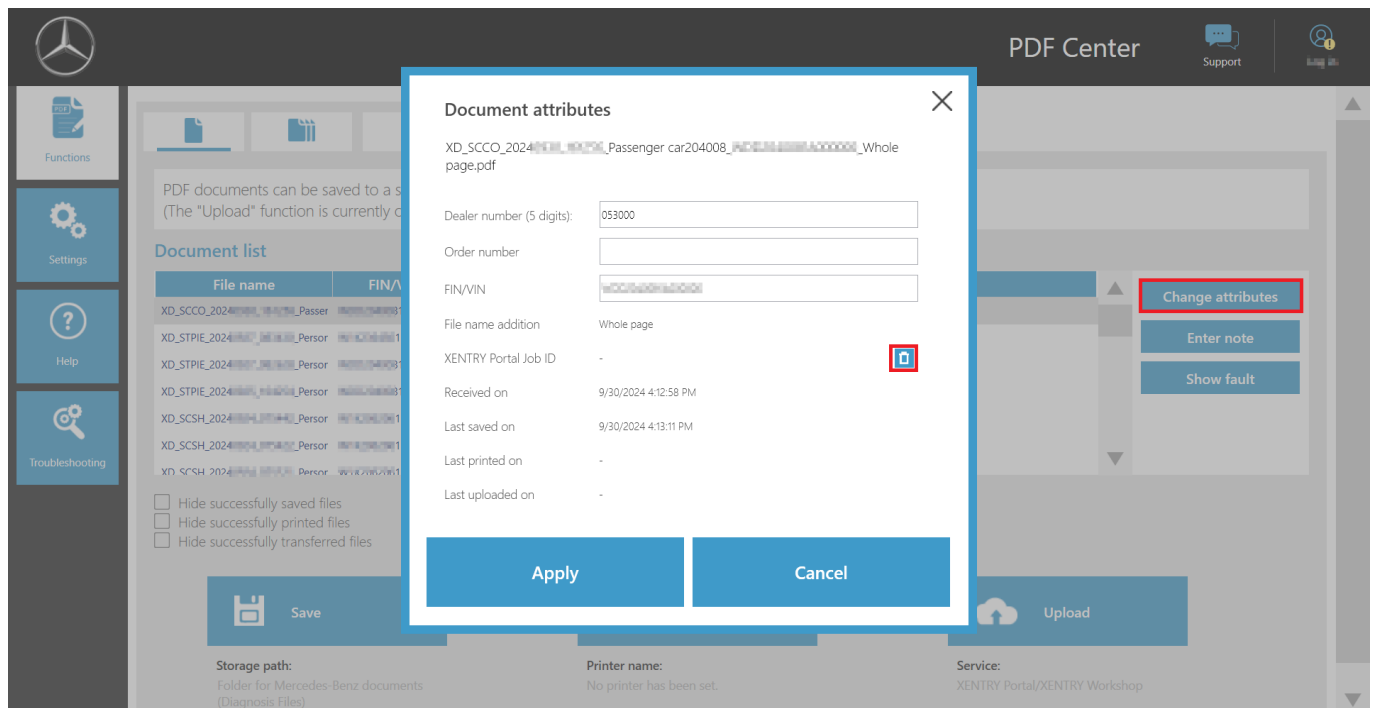

Fig. 45: PDF Center – Change document attributes
- ➔ If the XENTRY Portal Job ID needs to be changed, select the bin symbol (marked red in Fig. 45) to first remove the XENTRY Portal Job ID and then reassign it.